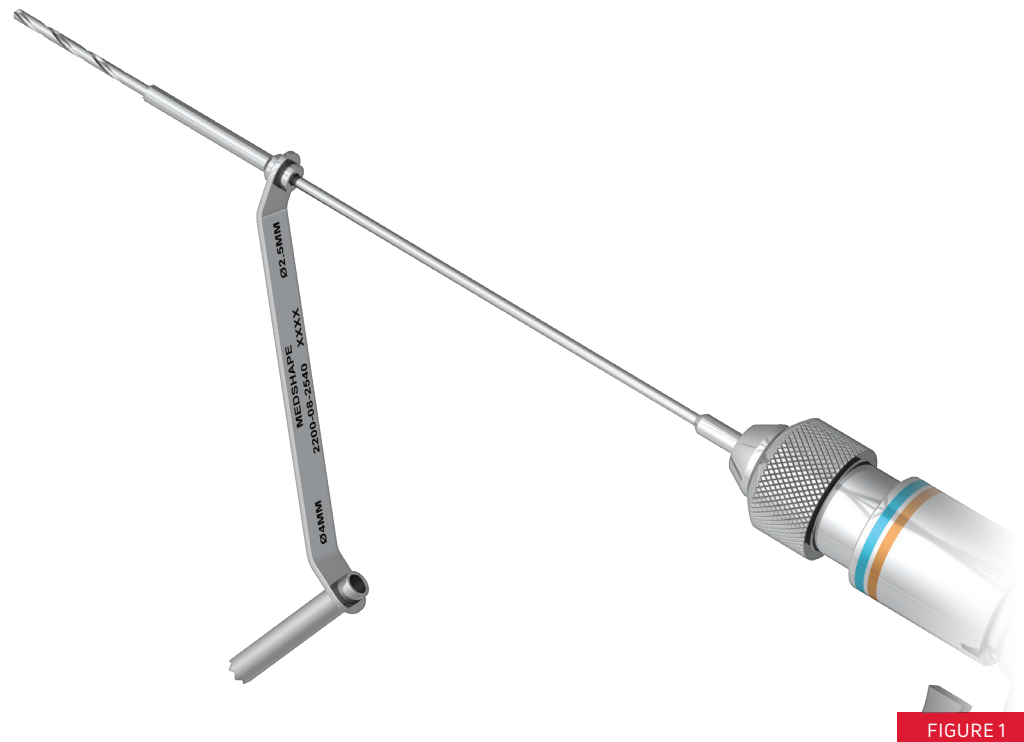

FIGURE 1
1. Fenestration Drill, 2.5 mm (24)
2. Soft Tissue Protector (23)
Joints should be resected and prepared. Debride the tarsometatarsal (TMT), naviculocuneiform (NC) and talonavicular (TN) joints until there is exposed bleeding subchondral bone. Leave the overall contours of the bones intact. Once all cartilage is removed, use a sharp osteotome to “fish-scale” the facets. The 2.5 mm Fenestration Drill can be used to aid in creating bleeding bone and feathering the joint surface (**FIGURE 1**). Assure that the bleeding bone surfaces are in apposition before proceeding. Place any graft material if desired.